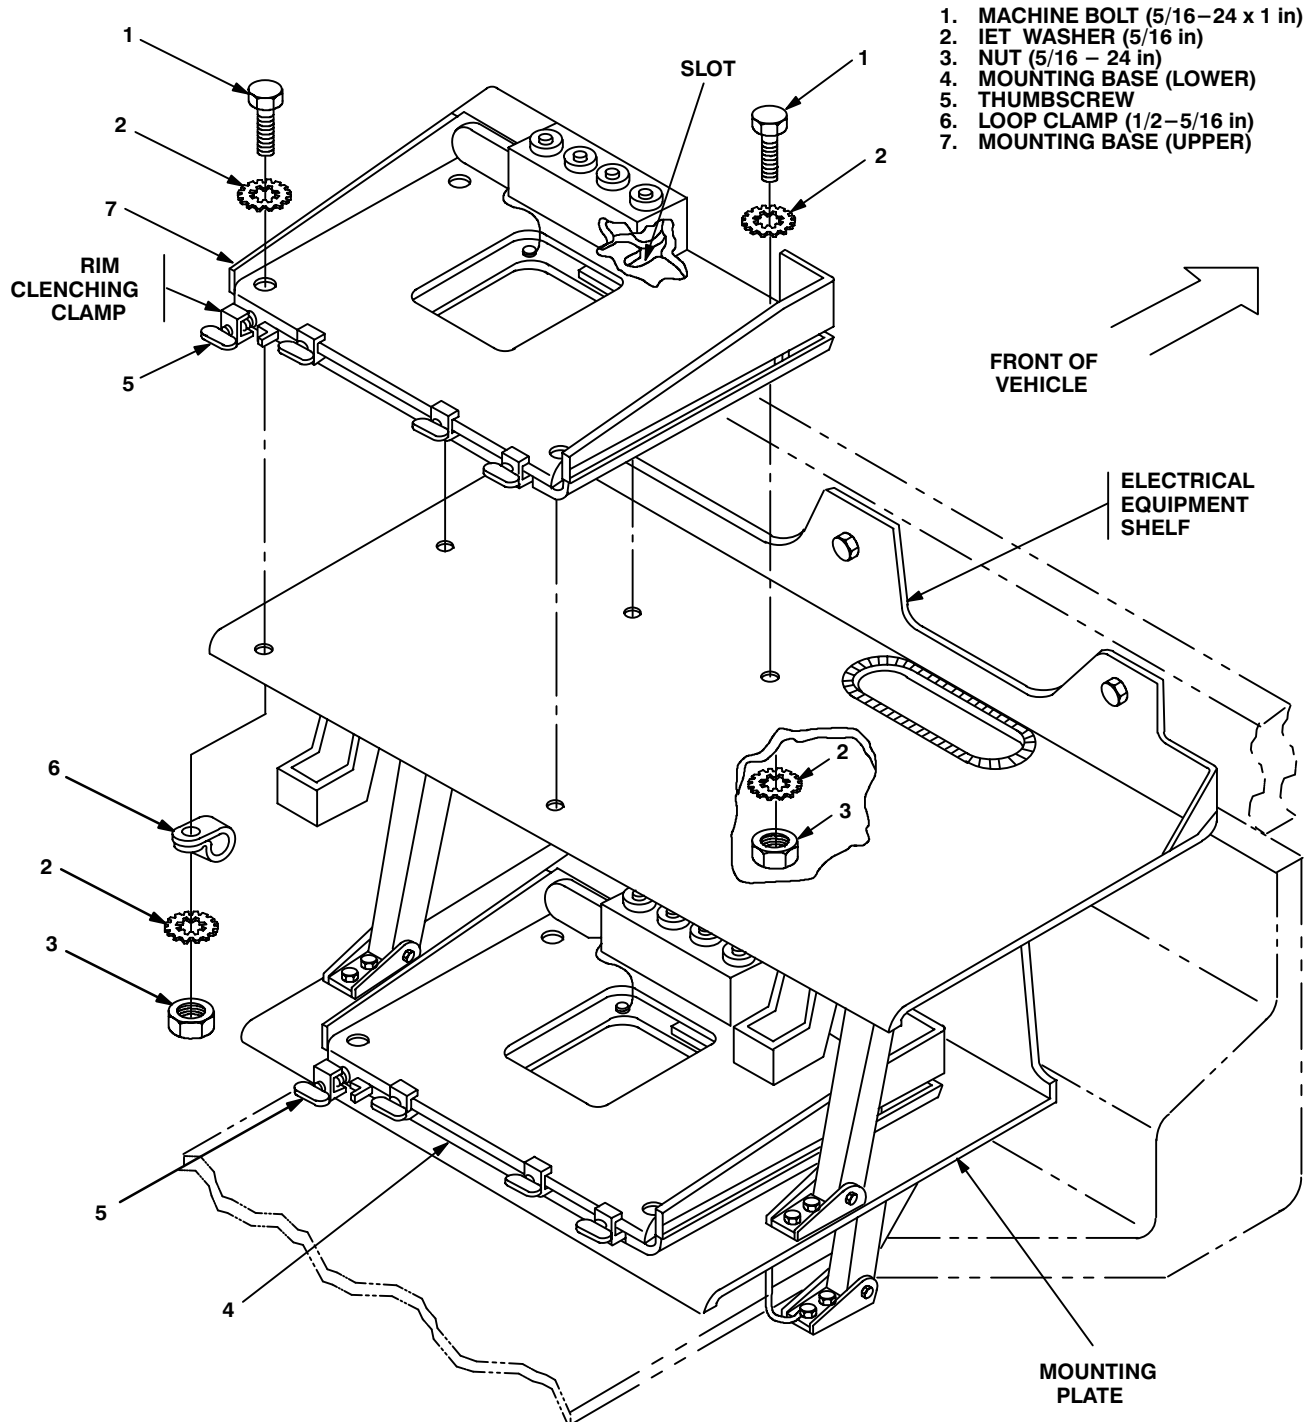

Figure 5-5. Mounting Base Installation
5.3 Installation of Mounting Base, Electrical Equipment MT-6352/VRC (mounting base). Remove and retain attaching bag of 5/16 in mounting hardware for installation. To insure good electrical grounding, any rust, corrosion or paint around mounting holes in mounting plate and electrical equipment shelf should be removed before installing the mounting base. See figure 5-5 and perform the following steps.